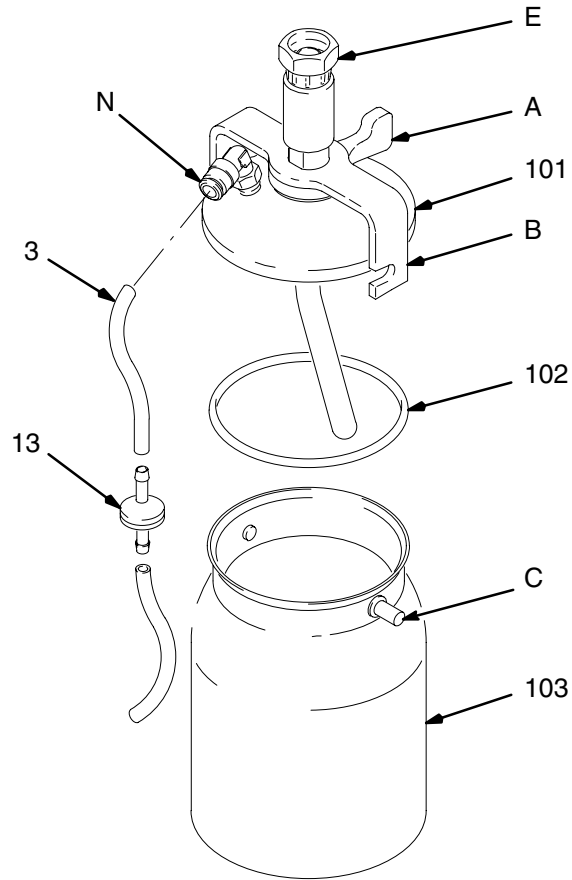

Fig. 6
2. To disengage the tube grip, push down on the outer ring of the lid elbow fitting (N), then pull the tubing (3) out of the fitting. See Fig. 6.
3. Holding a wrench on the gun fluid inlet fitting, disconnect the pressure cup swivel nut fitting (E).
1. Push the clamp lever (A) fully to the unclamped position, against the yoke (B). See Fig. 6.
2. Twist the cup lid (101) counterclockwise to disengage the yoke hook from the cup extended pins (C).
3. Remove the cup lid (101).
4. Clean the cup lid (101) and cup (103).